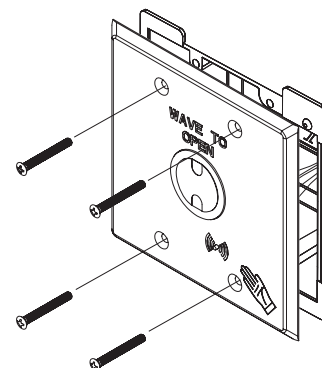

Figure 4
3. Attach the Wave-to-Open switch to conduit housing. Conduit housing may require use of screws supplied by others. M3.5 Philips Oval Head Machine screws are provided. (Figure 4)